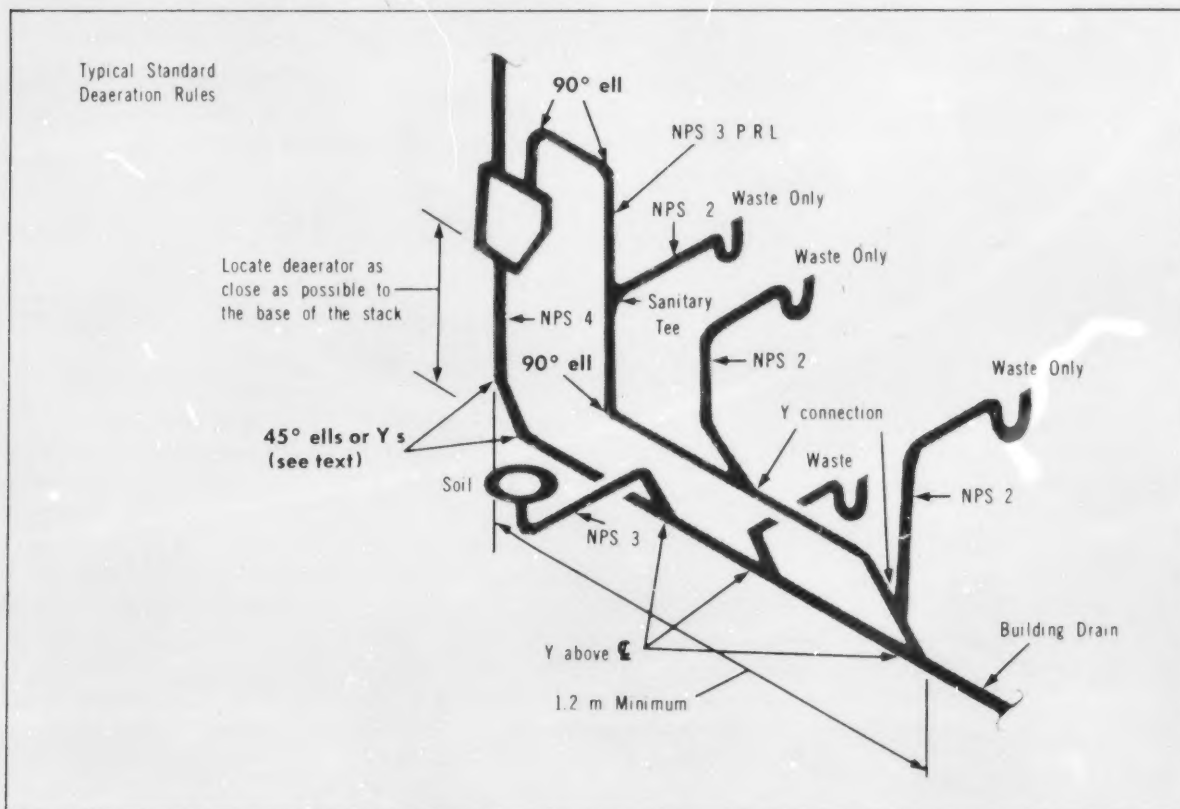

Figure 37-16. Installation of Deaerator Above Base of Solvent Stack
37. Each Solvent stack normally empties through a Solvent deaerator into the horizontal building drain (Figure 37-16). The deaerator should be installed as close as possible to the building drain. Below the deaerator, 45° ells or Ys are used, usually one of each as this provides for installation of a clean-out. Should a continuous drain pass under the Solvent stack, the stack could enter the top of the drain by a similar procedure. The horizontal building drain should be sized in accordance with local codes.